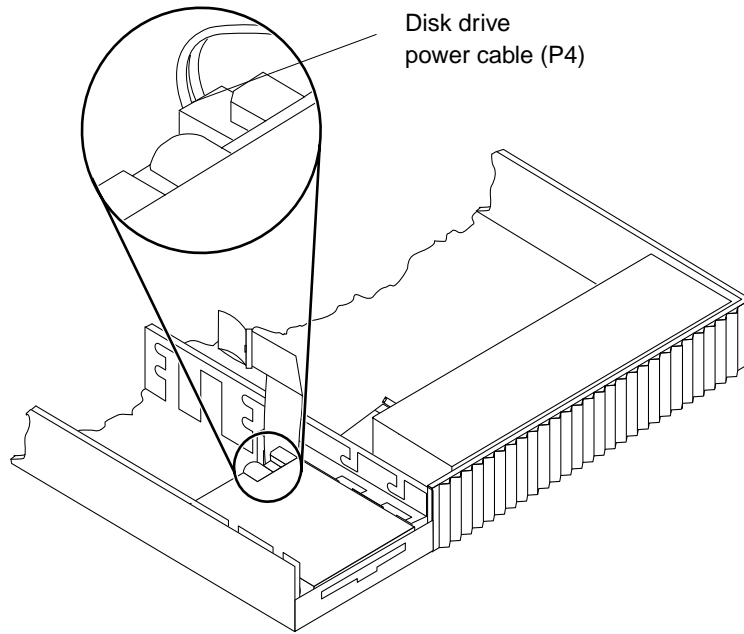

FIGURE 9-11 Diskette Drive Power Cable
5. **Place the screwdriver tip into the drive bracket slot next to a diskette grommet. Use the screwdriver as a lever to move a diskette grommet forward, toward the center of the chassis (FIGURE 9-11).**
7. **Disconnect the power cable from the diskette drive (FIGURE 9-11).**